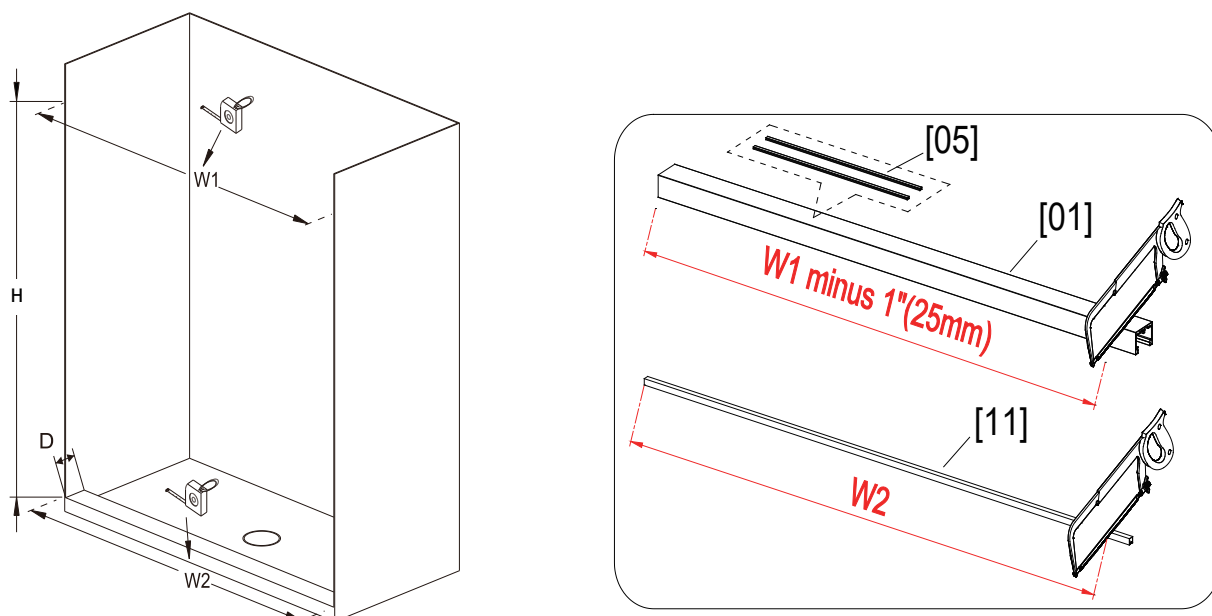

Fig 1
- This model requires a minimum 2.7" (68mm) of flat level threshold space for installation. (Dimension "D" of Fig 1.)